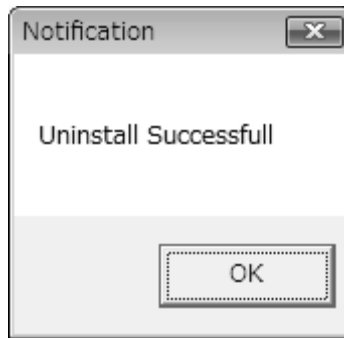

Fig. 84 Confirmation of uninstallation
(4) The uninstallation is started. When the uninstallation is completed, the screen shown in Fig.84 appears. Click **OK**.